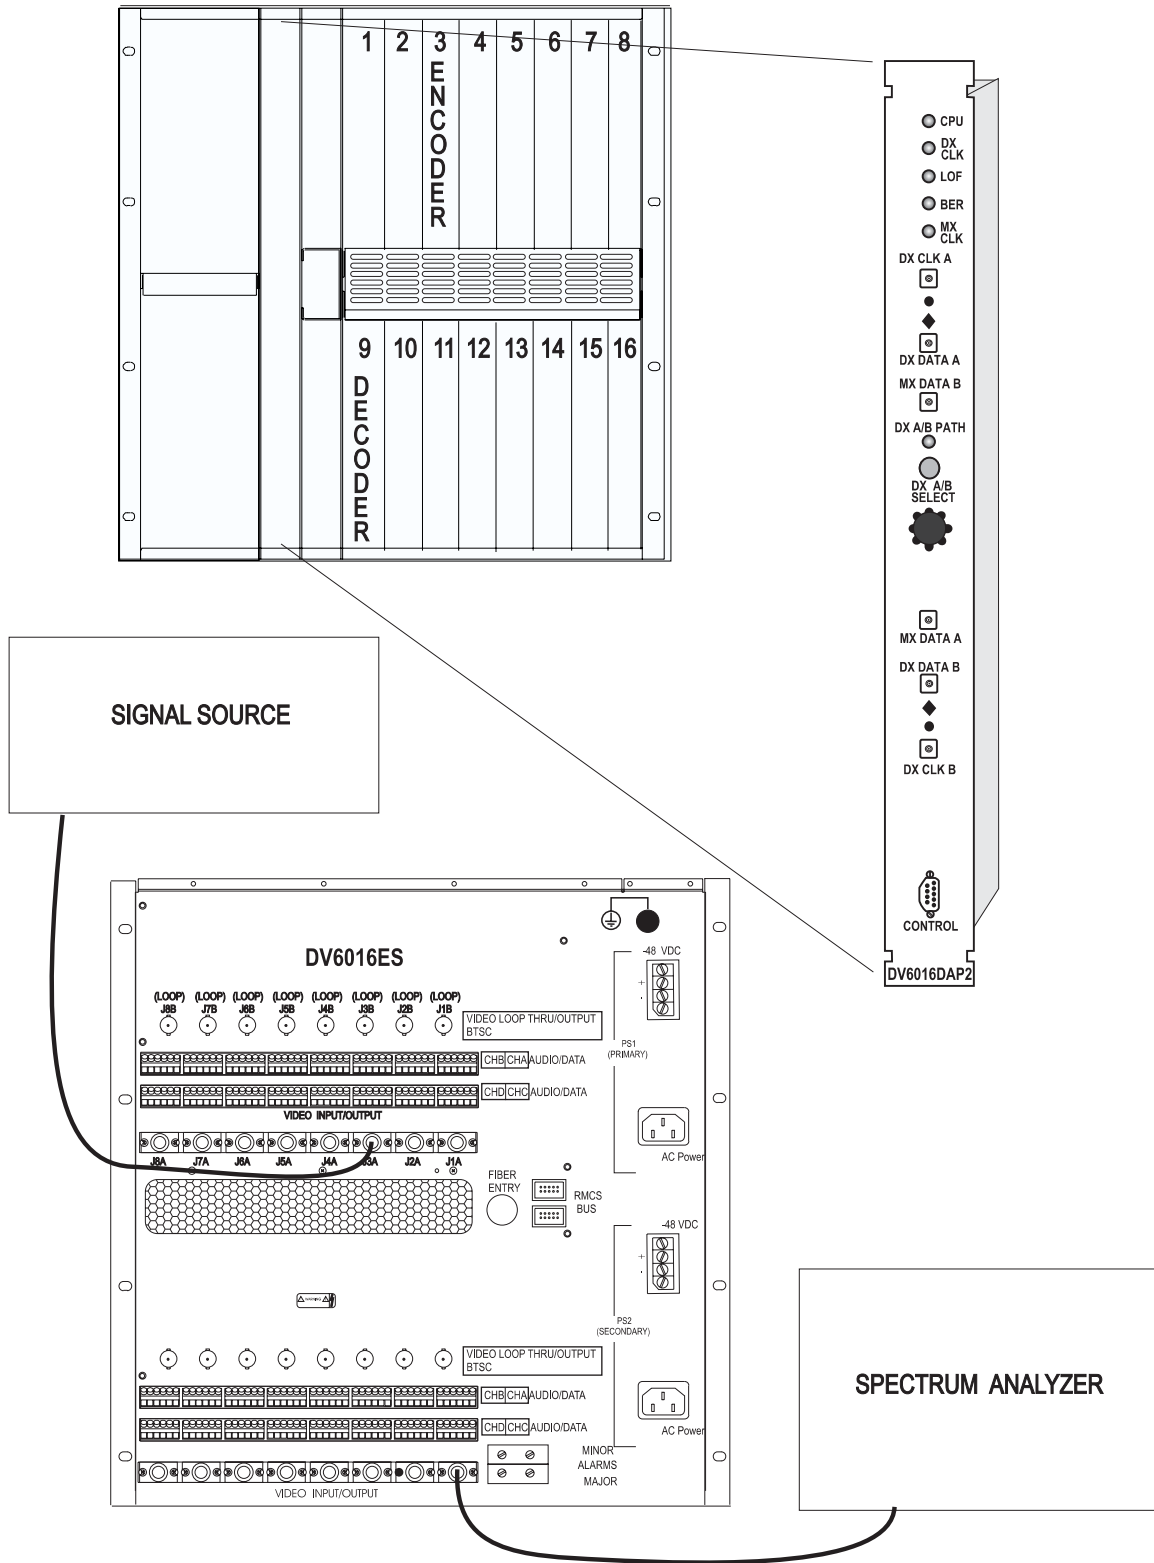

Figure 9. Equipment Set-Up for Encoder Loop back Testing in DV6000 Transmit Shelves
3. Connect the input connector of a video test set to the “Video Input/Output BNC” connector for the slot where the decoder was inserted into the shelf. See Figure 9.
7. With a multiplexer or demultiplexer card, set the LCL LBK rotary switch (on the front panel of the mux or demux card) to the slot number of the card to be tested (See Figure 9.). **Switch position “0” corresponds to equipment slot #1.** With a DAP card, setup for loopback testing must be done through software - either local craft interface, or network monitoring/control.
8. Connect the output of the signal source to the “Video Input/Output BNC” connector for the encoder card (See Figure 9.). The “Video Input/Output BNC” connectors are located on the backpanel of the shelf.